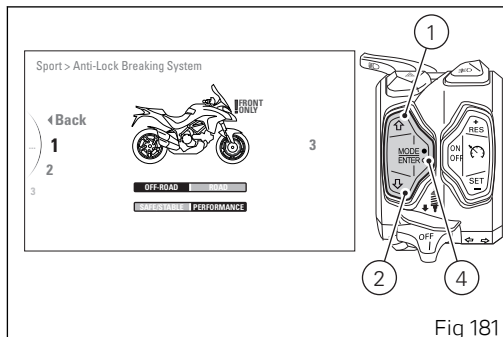
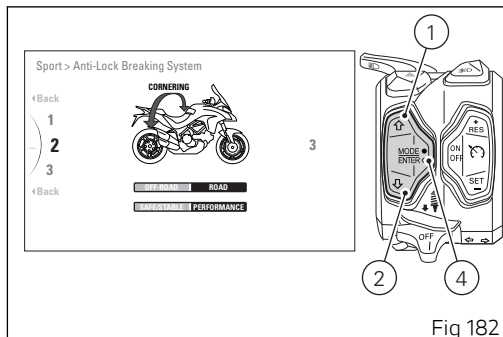

Fig 181
Fig 182
With buttons (1) and (2) select the new level of intervention desired. For each highlighted level, the corresponding paired value in the central table (highlighted with a black background) will be displayed. Furthermore, the braking system intervention level is indicated in Light Blue: the indication "**!FRONT ONLY**" (Fig 181) only for the front active brake, the indication "**CORNERING**" (Fig 182) for the active Cornering function. Once the desired level is highlighted, press button (4) to memorise the new selection. To exit the menu and go back to previous page highlight the "**◀ Back**" indication and press button (4).